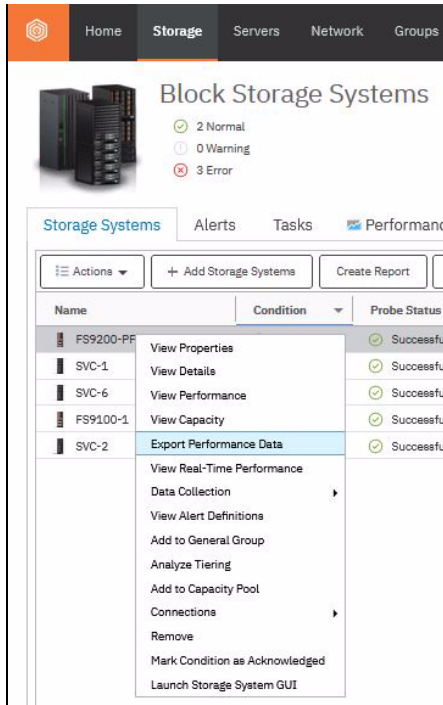

Figure 9-52 Spectrum Control - Export Performance Data
3. Right-click the storage resource, and then, click **Export Performance Data** (see Figure 9-52 on page 441).